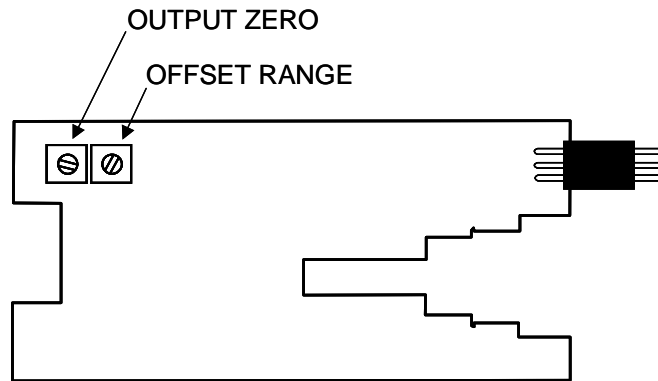

Figure 8-2 Adjustment Locations
6. Adjust **OFFSET ZERO** on the board until the DMM reads 0 V  $\pm 100 \mu\text{V}$ . Refer to figure 8-2 for adjustment location.